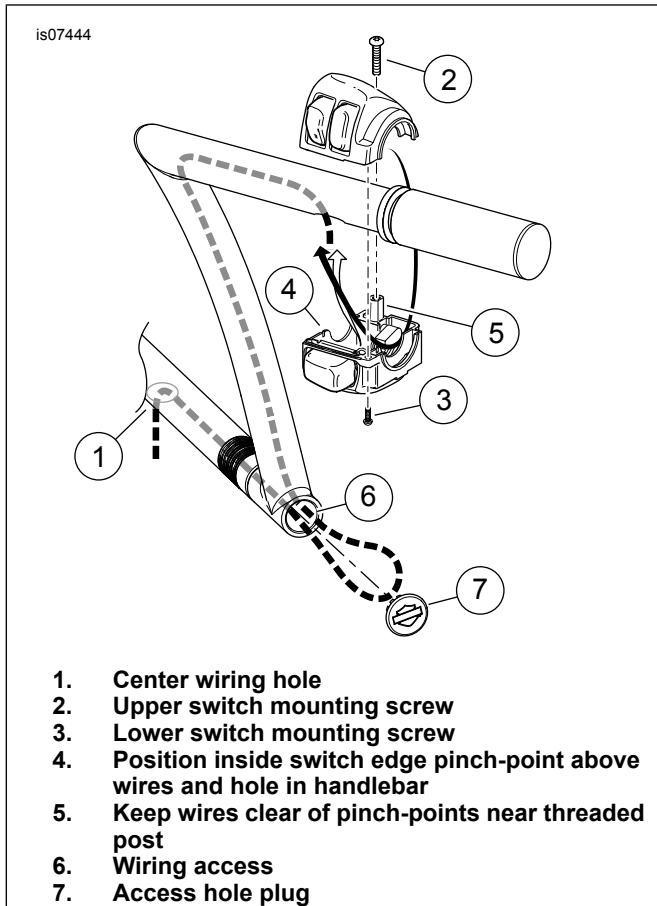

Figure 3. Switch Housing Wire Routing
6. See Figure 3. With the handlebar placed on a smooth, soft surface, grip ends upward, gently feed the right side switch wire bundle into the opening on the underside of the new handlebar and toward the large opening in the center of the bar.